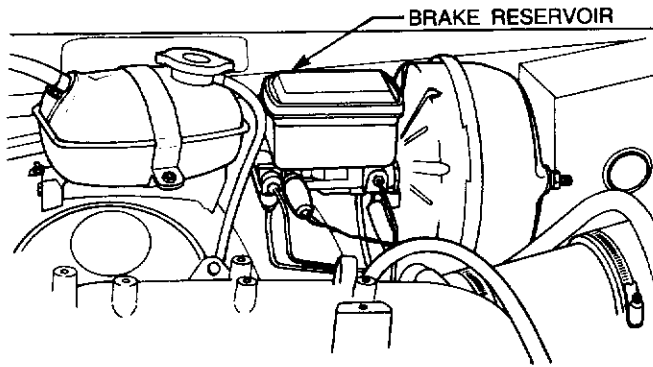

Figure 3-14 Brake reservoir
**339.** Check the fluid level in the brake reservoir against the level marked on the reservoir. If necessary, remove the reservoir top and top-up with clean brake fluid OX (Aust) 8. See Fig. 3-14 for reservoir location.